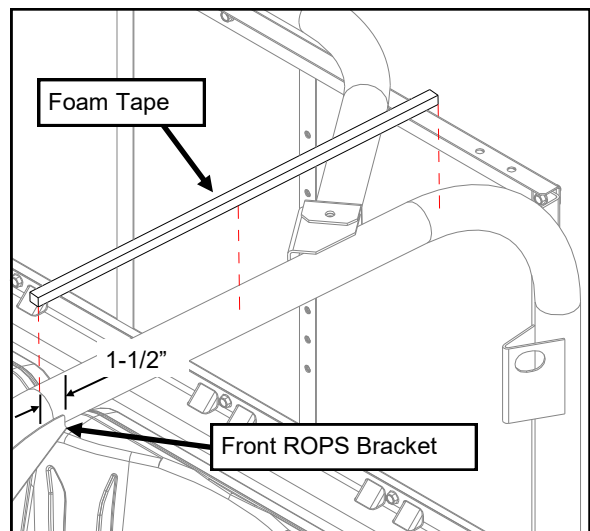

Fig. 5
5. Install foam tape to the top of the front-to-rear ROPS tubes on both sides of the vehicle. Foam tape to start approximately 1-1/2" in front of front ROPS bracket edge. (See fig. 5) Note: For best adhesion, apply to a clean, dry surface at room temperature.